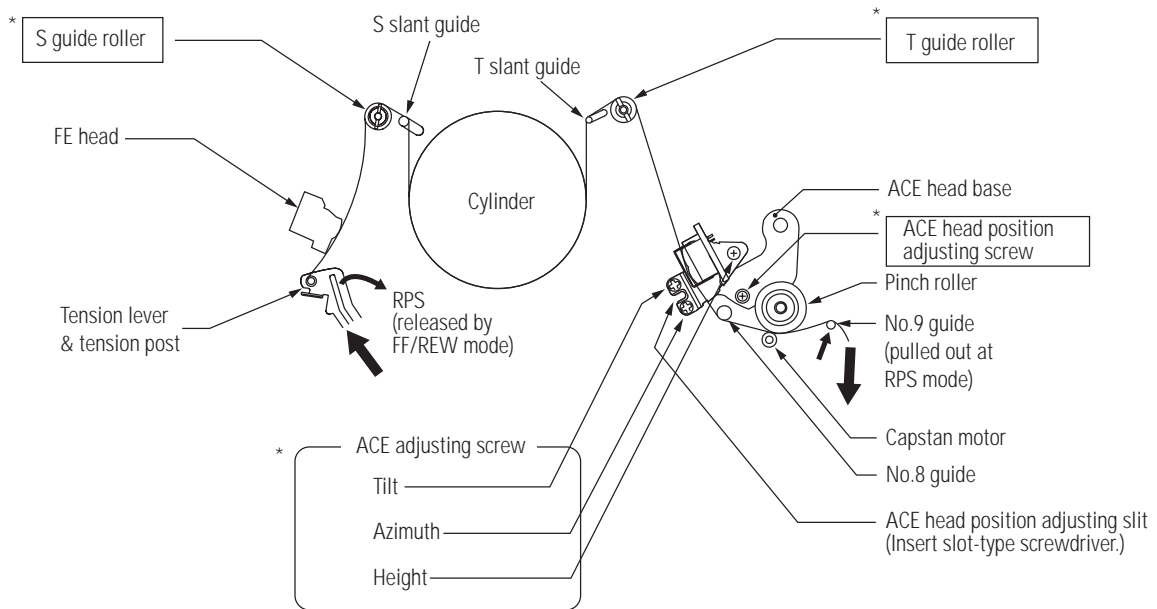

Fig. 8-2 Tape Path System
The tape come out from the supply reel (S) of the video cassette runs through paths shown in Figs. 8-2 and 8-3, and is taken up by the take-up (T) reel. (S stands for the supply reel, and T for the take-up reel, hereafter.) At S reel side (tape entrance side of the cylinder) against the cylinder, a tension post to allow the tape surface to contact with each head with a proper tension which assures stable running, an FE head which erases entire data of the tape, and an S guide roller which restricts tape motion in upward/downward direction are provided.